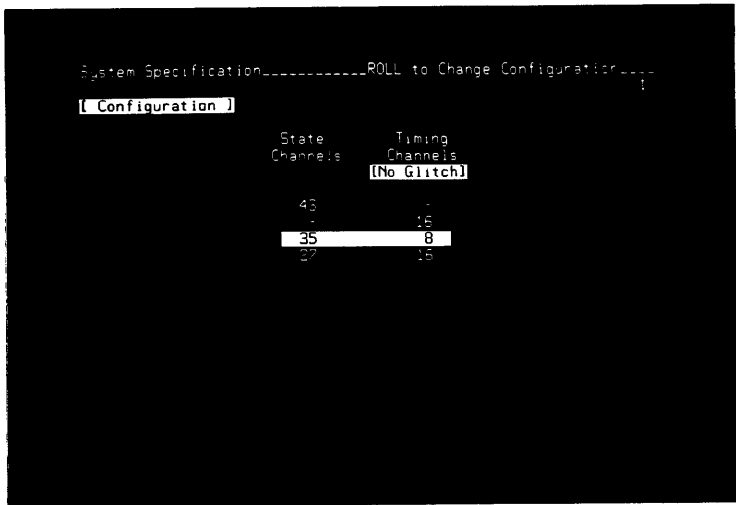

Figure 3-27. Combined State/Timing Analyzer System Configuration
2. Press the ROLL-down-arrow key to select the combined state and timing system specification shown in figure 3-27.